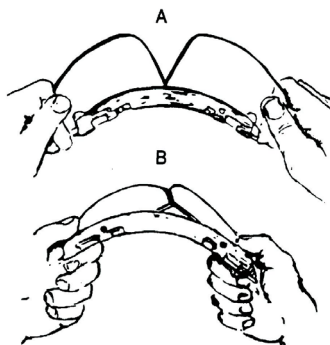

Fig. 4 Unattached lenses
- (2) Drill two holes:
- (3) Open unattached lenses by grasping the lenses (as shown in Fig. 4 A) and press downward. Rotate the lenses from the brass plate until they meet (as shown in Fig. 4 B) and are at a 90 degree angle to the plate.